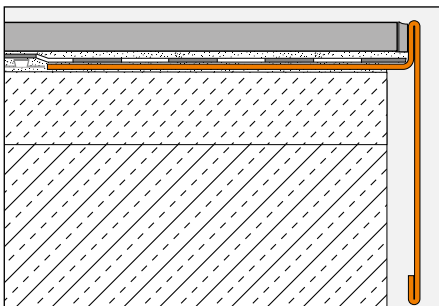
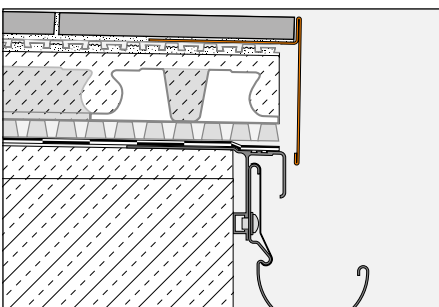

Fig. 4
Fig. 5
2. Embed the trapezoid perforated anchoring leg of the edging profile Schlüter-BARA-RT on the edge of the screed (Fig. 4) or on the previously installed drainage mat Schlüter-DITRA-DRAIN (Fig. 5) by placing it into the contact layer of thin set adhesive and trowel additional adhesive over the leg so that it is completely covered.
Installation in conjunction with tile coverings (Fig. 4 and 5)